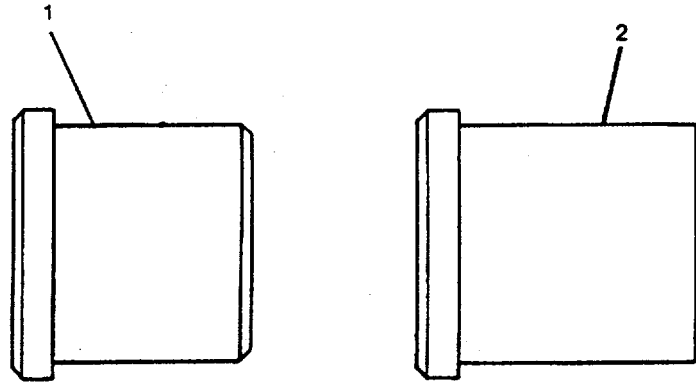

FIGURE 4-58. Bushing Driver Identification.
- Use bushing driver (1) to install bushing No. 1, No. 2, No. 4, and No. 6. Use bushing driver (2) to install bushing No. 3 and No. 5 (Figure 4-58).